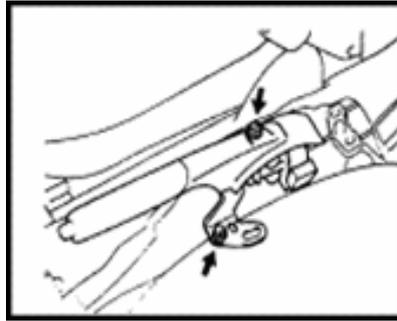

Fig. 2-75
7) Remove the accessories of the parking brake rod as shown in Fig. 2-75.